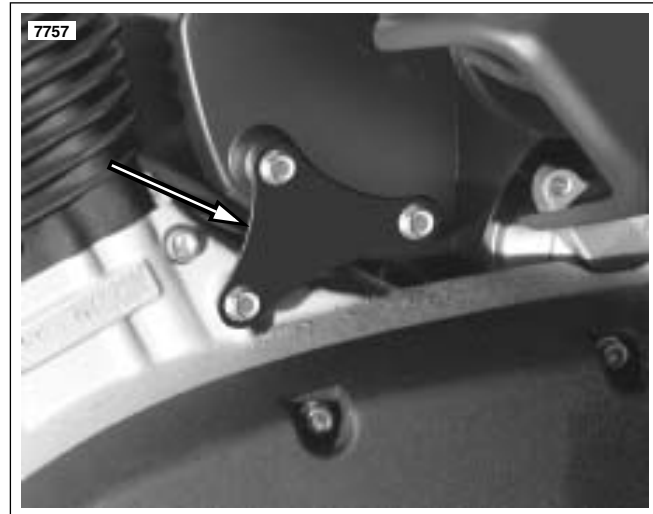

Figure 1-37. Air Cleaner Mounting Bracket (left side)
- See Figure 1-37. Moving to left side of vehicle, remove two flange bolts to release side of air box from triangular shaped bracket. Do not remove bottom bolt to crankcase.